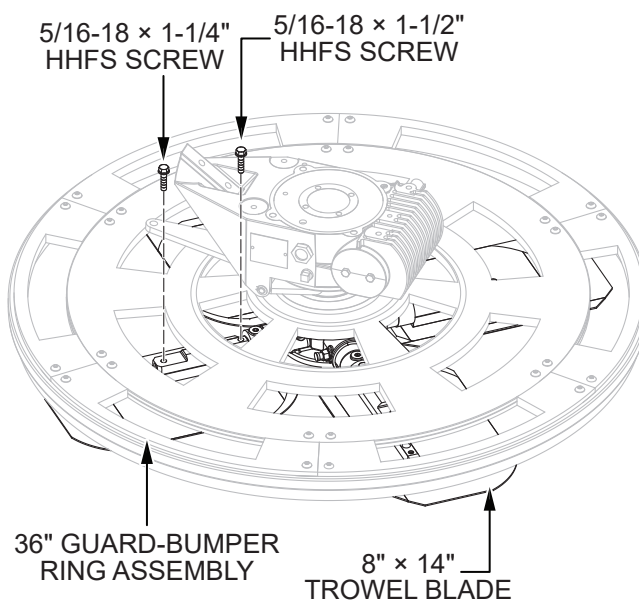

**Figure 23. 36-Inch Guard-Bumper Ring Assembly Installation**
- Secure the 36-inch guard-bumper ring assembly to the 30-inch guard ring with the twelve M8-1.25 x 25 mm HHC screws and M8-1.25 nyloc nuts (Figure 23).